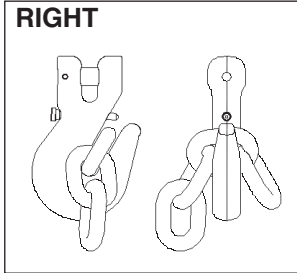

Figure 1
- Always make sure internal spring will force the pin latch forward closing throat opening of grab hook. (See Figure 1).
- Always make sure hook supports the load. The pin latch must never support the load. (See Figure 1, 2, 3 and 4).